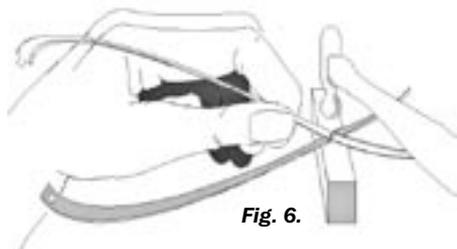

Fig. 6.
- 2 If there is a rivet or a screw that will not loosen, tighten the joint by placing the joint flat on a metal surface and gently tapping with a very small hammer (Figure 6).